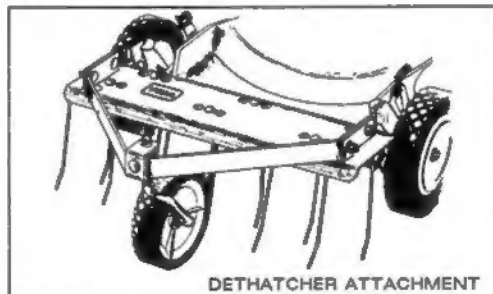

Figure 32
2. Dethatcher Kit, Model No. 59131—Installs in minutes. Front mounted for easy maneuverability. Spring tines loosen thatch for clean vacuuming into grass bag (Fig. 32) and convenient disposal.